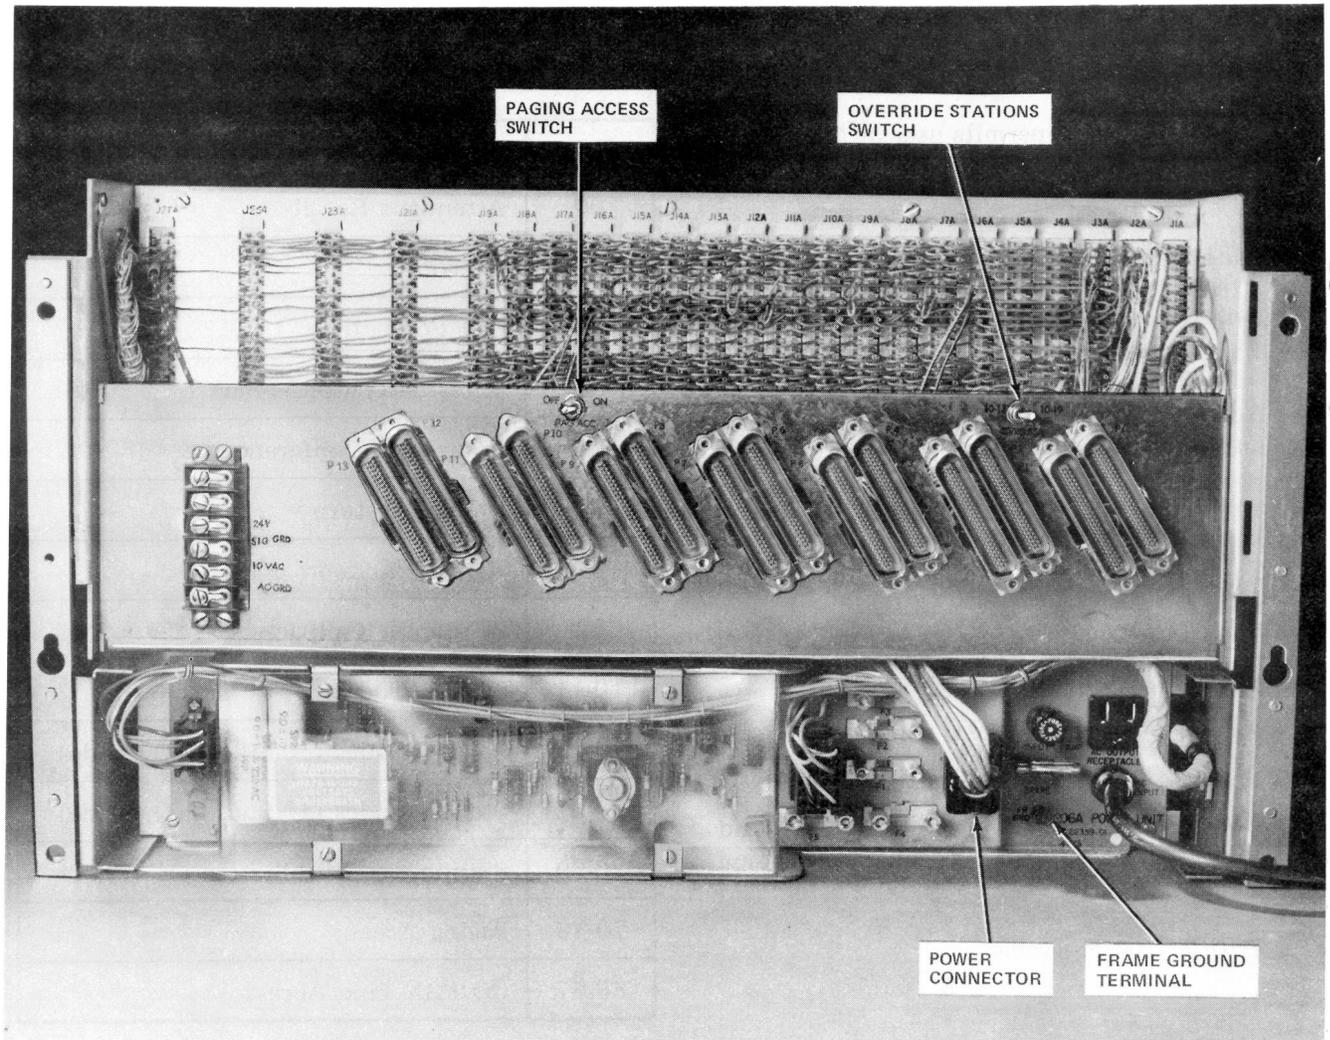

Fig. 1—572A1 KSU (Rear View)
**2.03** All wiring, except power, is brought into the 572A1 KSU through connector cables plugged into the rear of the unit (Fig. 1). An optional 184C1 backboard has been developed as a terminal field for the 6B KTS, or existing blocks in the yellow field of a centralized key system can be used.